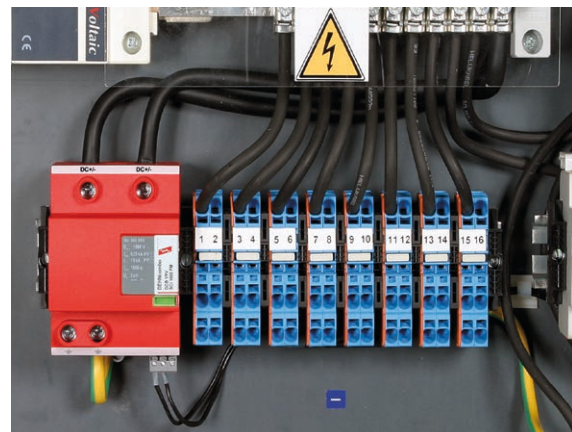

Figure 10 Surge protective device in a monitoring generator junction box
DEHNcombo YPV ... (FM), which can be installed at the inverter or in the generator junction box, allows you to protect PV generators with a capacity up to 10,000 A without an additional backup fuse (**Figure 10**). DEHNcombo YPV is available for system voltages ≤ 1200 V and ≤ 1500 V.